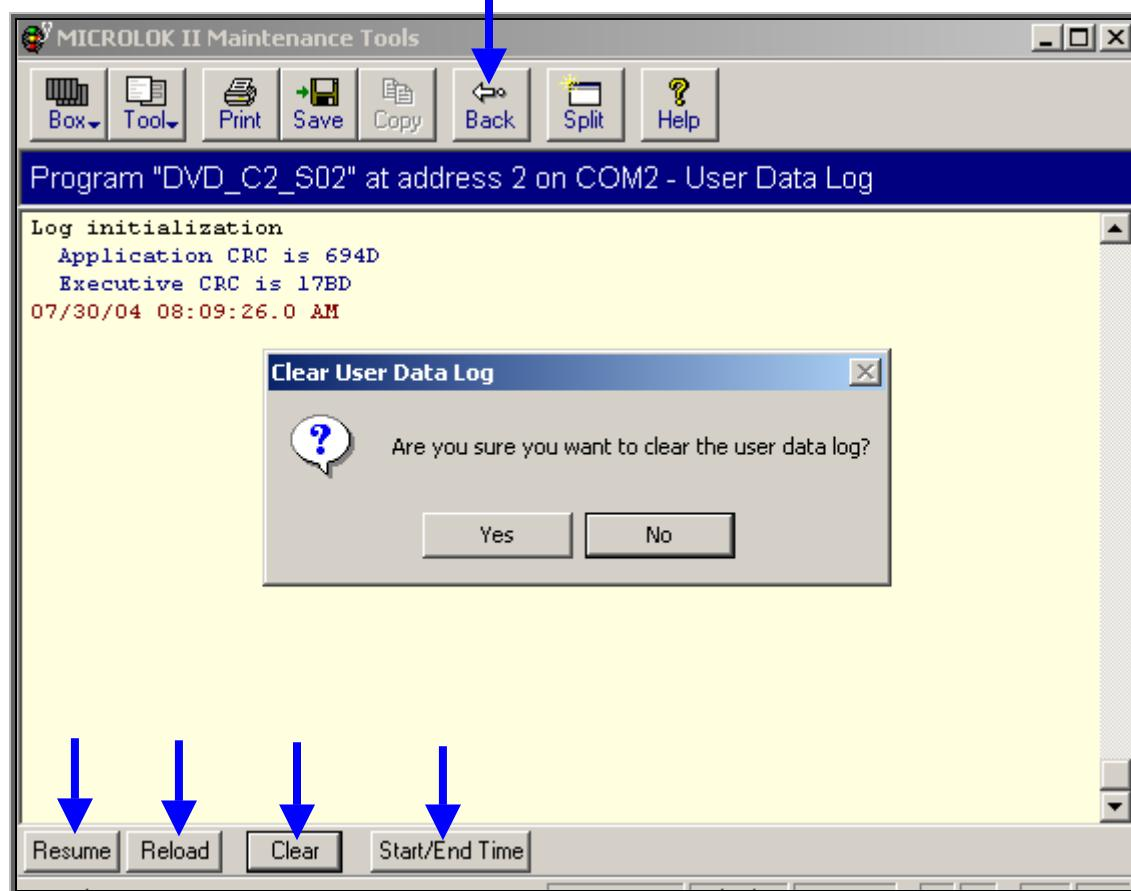

Figure-5.6.2.9
- An example of the confirmation box is shown in Figure-5.6.2.9. Click on “Yes” to clear the log or “No” to return to the User Data Log display.